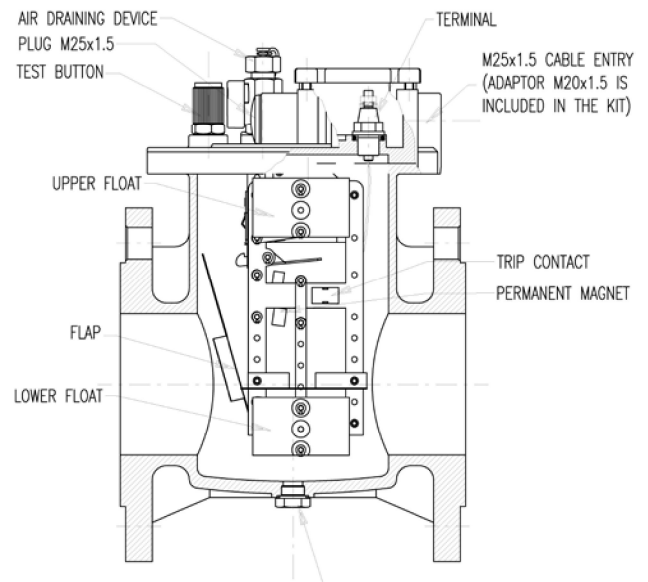

Figure 7: Buchholz relay
- It is a universal practice to use Buchholz relays on all oil immersed transformers having ratings in excess of 750 kVA. The Buchholz relay is a protective relay for equipment immersed in oil for insulating and cooling purpose, Figure 7 and Table 4.